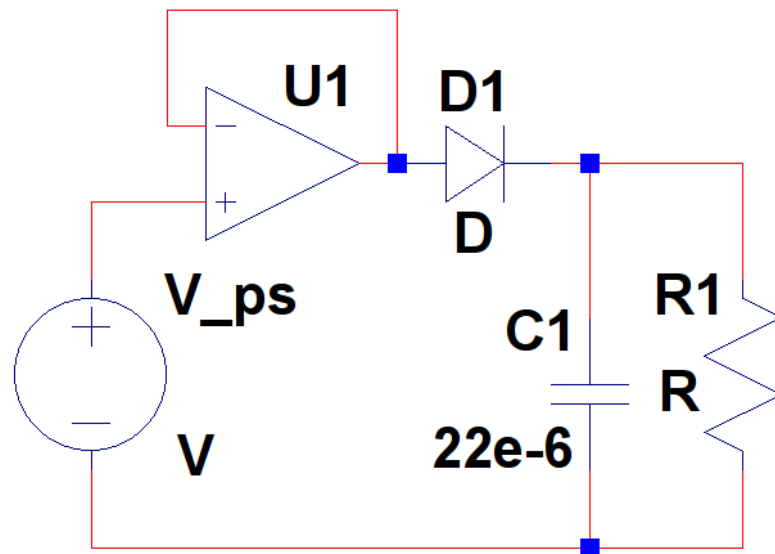

Figure 1: Filtered Rectifier Circuit
- Use a 1N4740 diode to construct the circuit from Figure 1.
- a. Simulate the same circuit from Figure 1 on Cadence Orcad PSPICE.
The circuit from Figure 1 was simulated on Cadence Orcad PSPICE, assigning the value of R_L to $R_{L_measured} = 7.25 \text{ k}\Omega$.